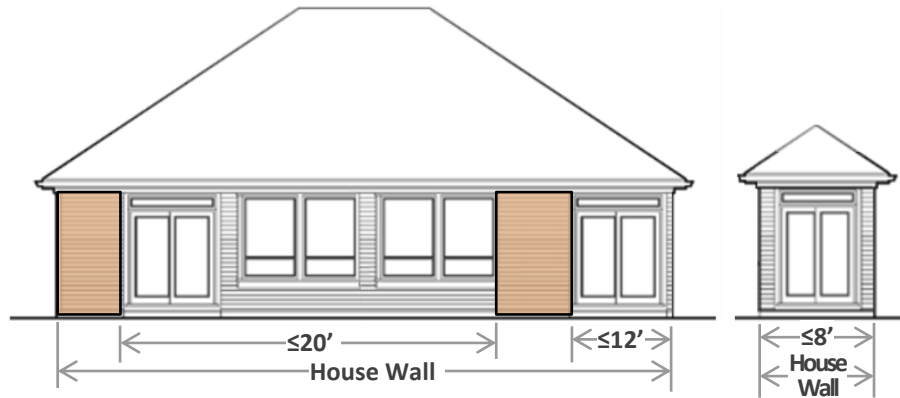

FIGURE 8: BRACED WALL PANELS ON HOUSE WALLS
- 1. Location:** A braced wall panel must be located at or start within 12 feet from each house corner and, if using multiple rectangles, each rectangle corner. See FIGURE 8.
- 2. Spacing:** The distance between adjacent braced wall panels on each house wall or rectangle side cannot exceed 20 feet. See FIGURE 8.
- 3. Number:** House walls greater than 8 feet long must have a least one braced wall panel, and house walls less than 8 feet long are permitted to have no braced wall panels. See FIGURE 8.